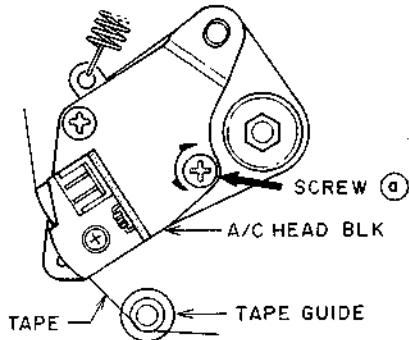

Fig. 6-6-1
- 1) Check the tape curl at TAPE GUIDE, slightly turn the screw (a) shown in Fig. 6-6-1 if the tape curl exists.